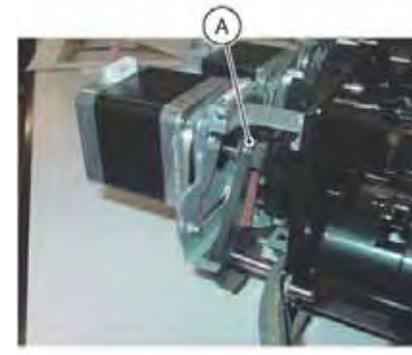

Figure 9 Belt Installation
2. Install the Belt (A) to the Pulley of the DADF Registration Motor. (Figure 9)